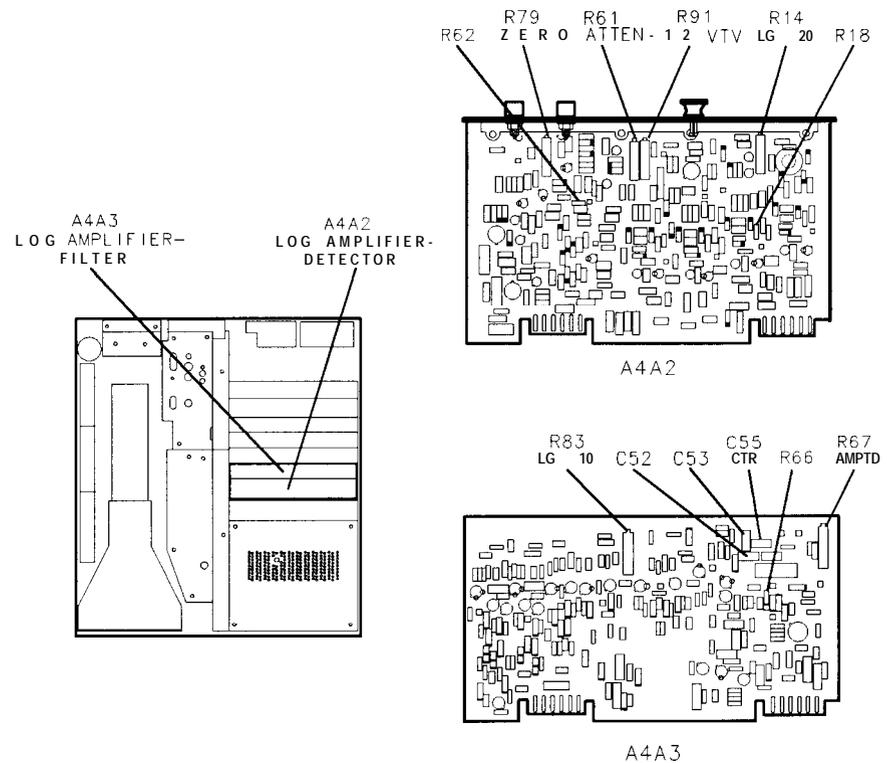

Figure 3-34. Location of Log Amplifier Adjustments
- Adjust A4A2R79 ZERO for 0.0000 ±0.0005 V dc. See Figure 3-34 for location of adjustment.
- Adjust A4A3C55 CTR for maximum DVM indication. See Figure 3-34 for location of adjustment. If A4A3C55 is at an extreme of its adjustment range (fully meshed, maximum capacitance, or unmeshed, minimum capacitance), increase or decrease value of A4A3C52 and A4A3C53. Refer to Table 3-3 for range of values.
11. Adjust A4A3R67 AMPTD for DVM indication the same as that noted in step 9 ± 0.0005 V dc. See Figure 3-34 for location of adjustment. If unable to adjust A4A3R67 AMPTD for proper indication, increase or decrease value of A4A3R66. (If A4A3R67 is fully counter-clockwise, increase the value of A4A3R66.)
18. Adjust A4A2R91 – 12 VTV for DVM indication of $+ 500 \pm 1$ mV dc. See Figure 3-34 for location of adjustment.
20. Adjust A4A2R61 ATTEN for DVM indication of $+ 1.000 \pm 0.0001$ V dc. See Figure 3-34 for location of adjustment. If unable to adjust A4A2R61 ATTEN for proper indication, increase or decrease value of A4A2R62. (If A4A2R61 is fully clockwise, increase the value of A4A2R62.) Refer to Table 3-3 for range of values.
25. Adjust A4A3R83 LG10 for DVM indication of $+ 1.000 \pm 0.010$ V dc. See Figure 3-34 location of adjustment. If unable to adjust LG10 for proper indication, increase or decrease value of A4A3R54. Refer to Table 3-3 for range of values.
28. Adjust A4A2R14 LG20 for DVM indication of $+ 1.000 \pm 0.010$ V dc. See Figure 3-34 for location of adjustment. If unable to adjust LG20 for proper indication, increase or decrease value of A4A2R18. Refer to Table 3-3 for range of values.